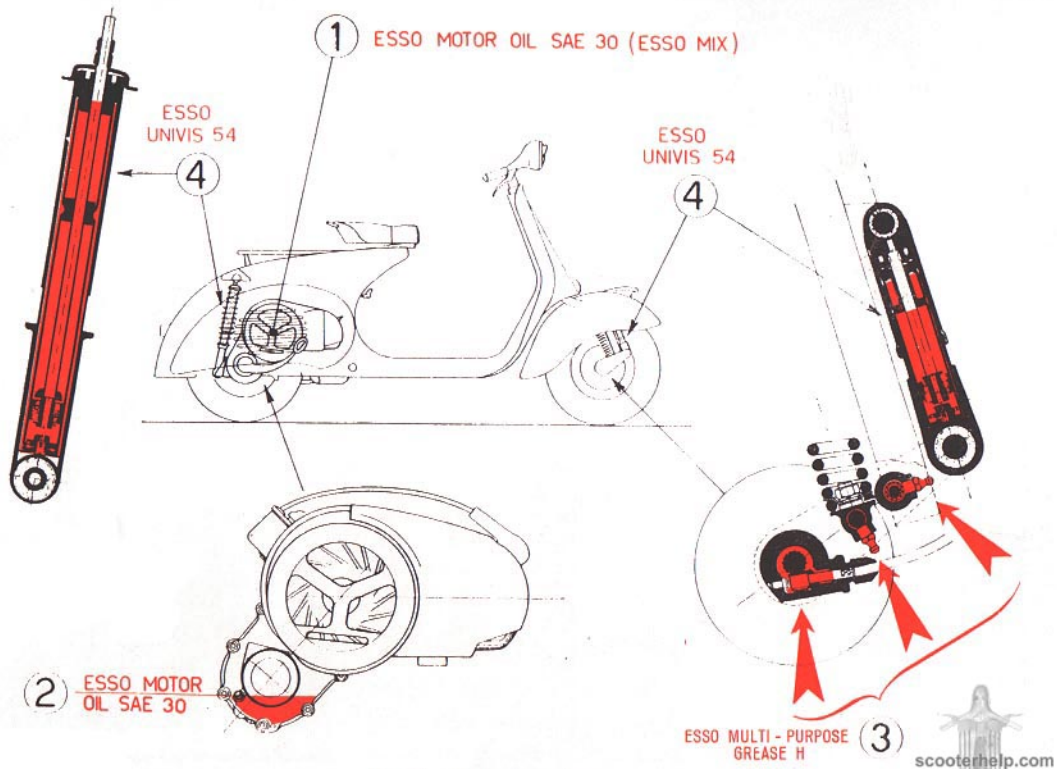

Fig. 22 - Lubrication scheme
N. B. - Lubricate exclusively with oil and grease types as indicated on lubrication chart, page 26, and Fig. 22